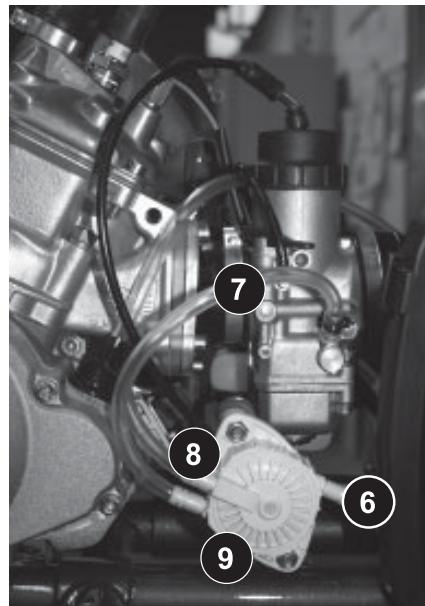

Fig. 100
**◆ Note:** On assembly, make sure that all pipes are correctly connected, see Fig. 100.